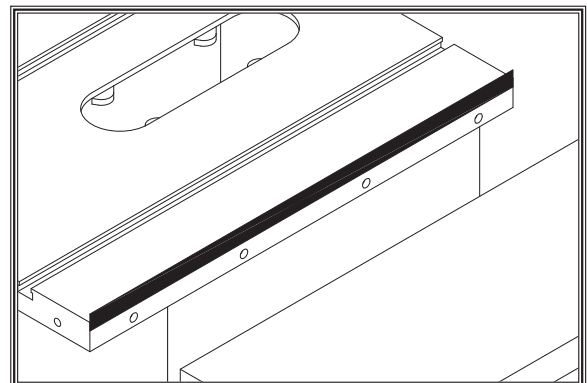

Figure 15. Masking tape location for adjusting the extension wing down.
- If the outside end of the extension wing tilts up, use a strip of masking tape along the top edge of the main table to shim the extension wing down (Figure 15).